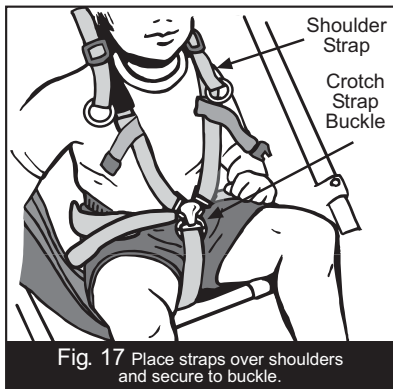
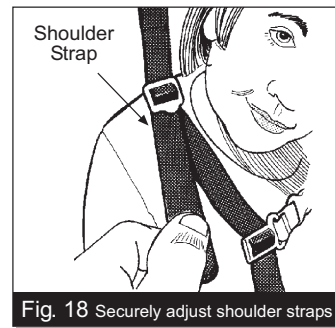
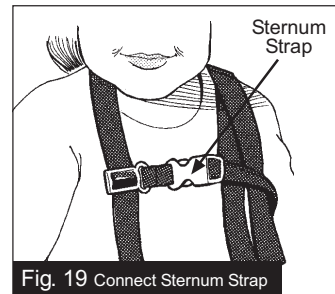

Fig. 17 Place straps over shoulders and secure to buckle.
Fig. 18 Securely adjust shoulder straps
Fig. 19 Connect Sternum Strap
**9. SEAT SAFETY HARNESS:** Set parking brake before placing child in stroller. To secure your child in the seat, put one shoulder strap over each shoulder and snap the male buckle into the female receiver on the crotch strap (Fig. 17). Adjust shoulder straps to be snug and secure (Fig. 18). Connect and adjust the sternum strap (red), see Fig. 19. **WARNING:** Never place passengers in the stroller without securing them in the harness. Unrestrained passengers can affect the control of the stroller. Passenger weight limit - 70 lbs (32 kg) Passenger height limit - 44 in (122 cm)